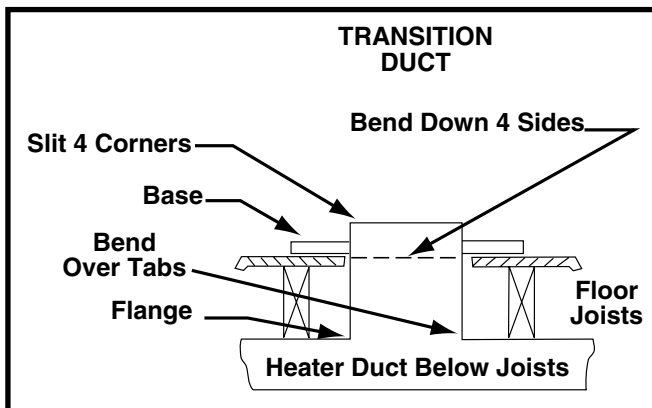

Figure 8. Transition Duct
4. Drop transition duct (Figure 8) upside down through the floor opening and center the top of the feeder duct in 14-1/8" x 14-1/8" floor opening. Using the feeder duct as a guide, mark and cut a 12" x 12" opening in the supply duct.
4. Set the universal base in place. Drop transition or offset feeder duct (Figure 8) upside down through the floor opening and center the top of the feeder duct in 14-1/8" x 14-1/8" floor opening.